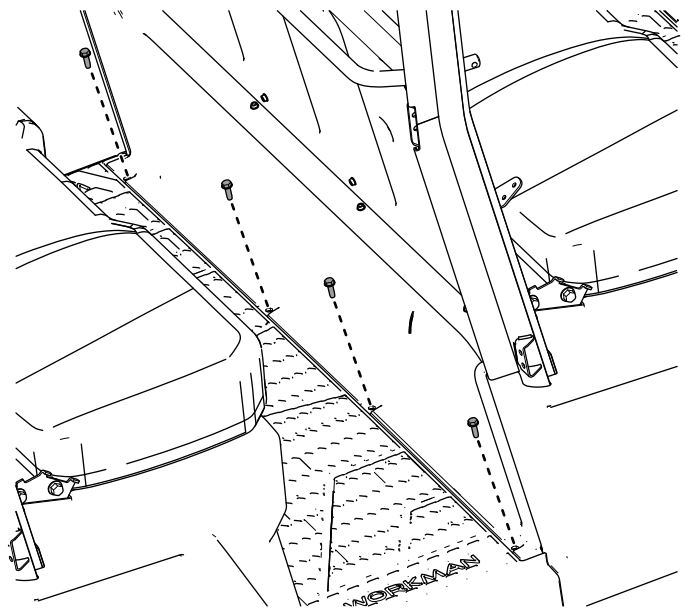

Figure 57
24. Secure the bottom of the foot well using the previously removed 4 hex-washer head bolts (5/16 x 1 inch) as shown in Figure 57.